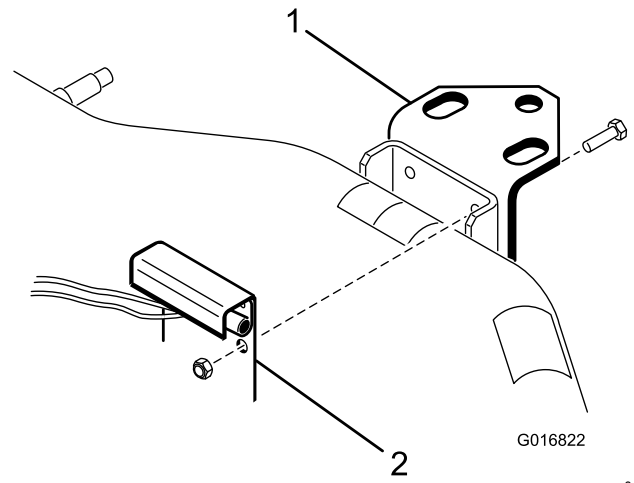

Figure 12
1. Remove the locknuts securing the top of the hitch plate to the rear axle (Figure 12).